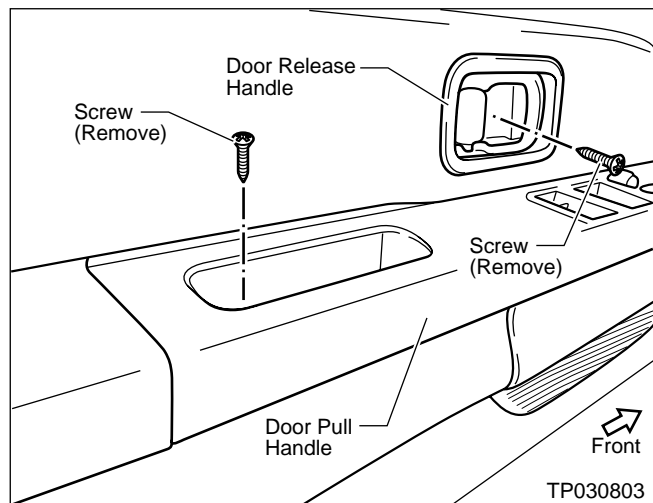

Figure 24
2. Take out the screw from the Door Pull Handle and the screw from the Door Release Handle (see Figure 24).